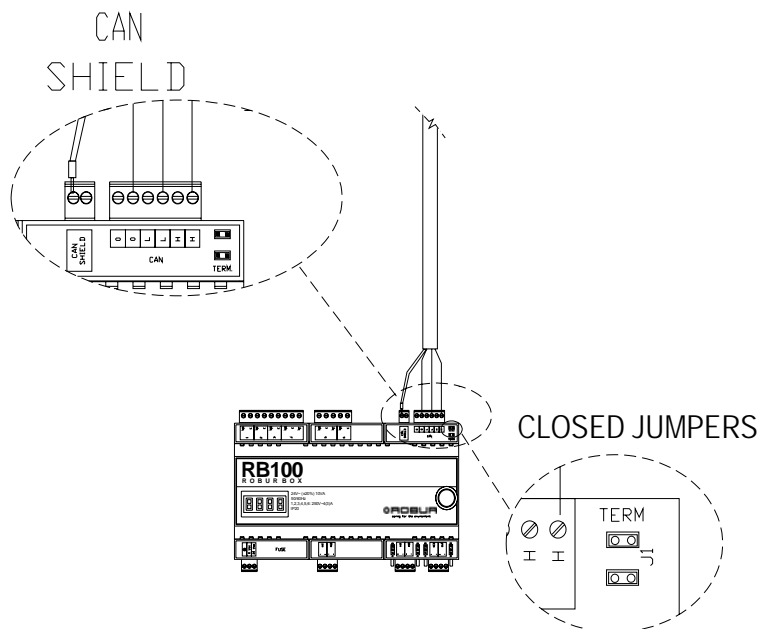

Figure 26 - Connection of 1 CAN BUS cable to RB100: Appliance IS A FINAL NODE. Positions for CAN BUS cable wires and jumpers are pointed out: CLOSED.
6. Connect three coloured wires to "CAN" connector, following scheme in Figure 26, Page 41.
- if appliance is a **final node** on the network (3 wires in "CAN" connector in board): locate jumpers closed as shown in Figure 26: